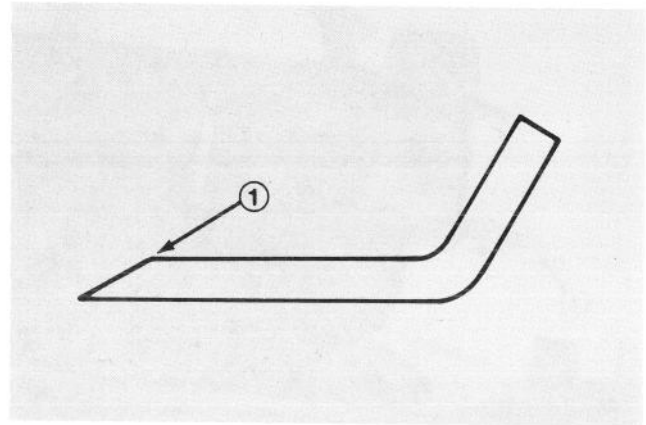

Figure 36
5. Using a file, sharpen cutting edge at both ends of the blade (Fig. 36).
cutting edge (Fig. 36). The blade will remain balanced if same amount of material is removed from both cutting edges.